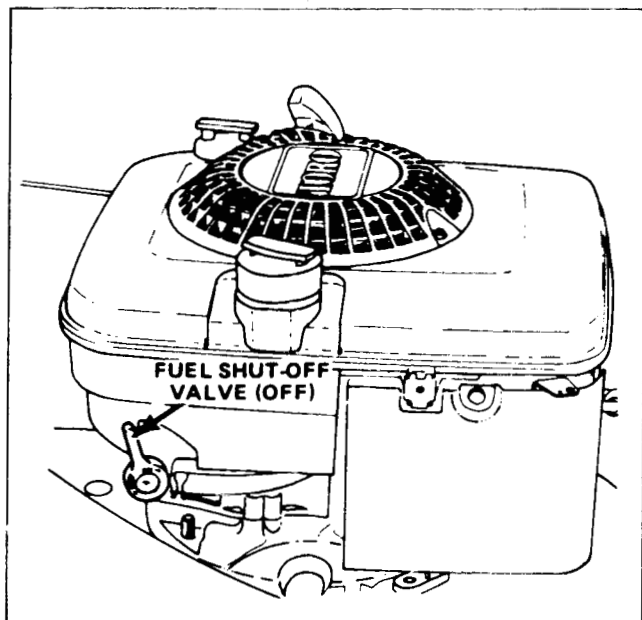

Figure 10
2. Turn the fuel shut-off valve, if applicable, to the OFF position as shown in Figure 10.